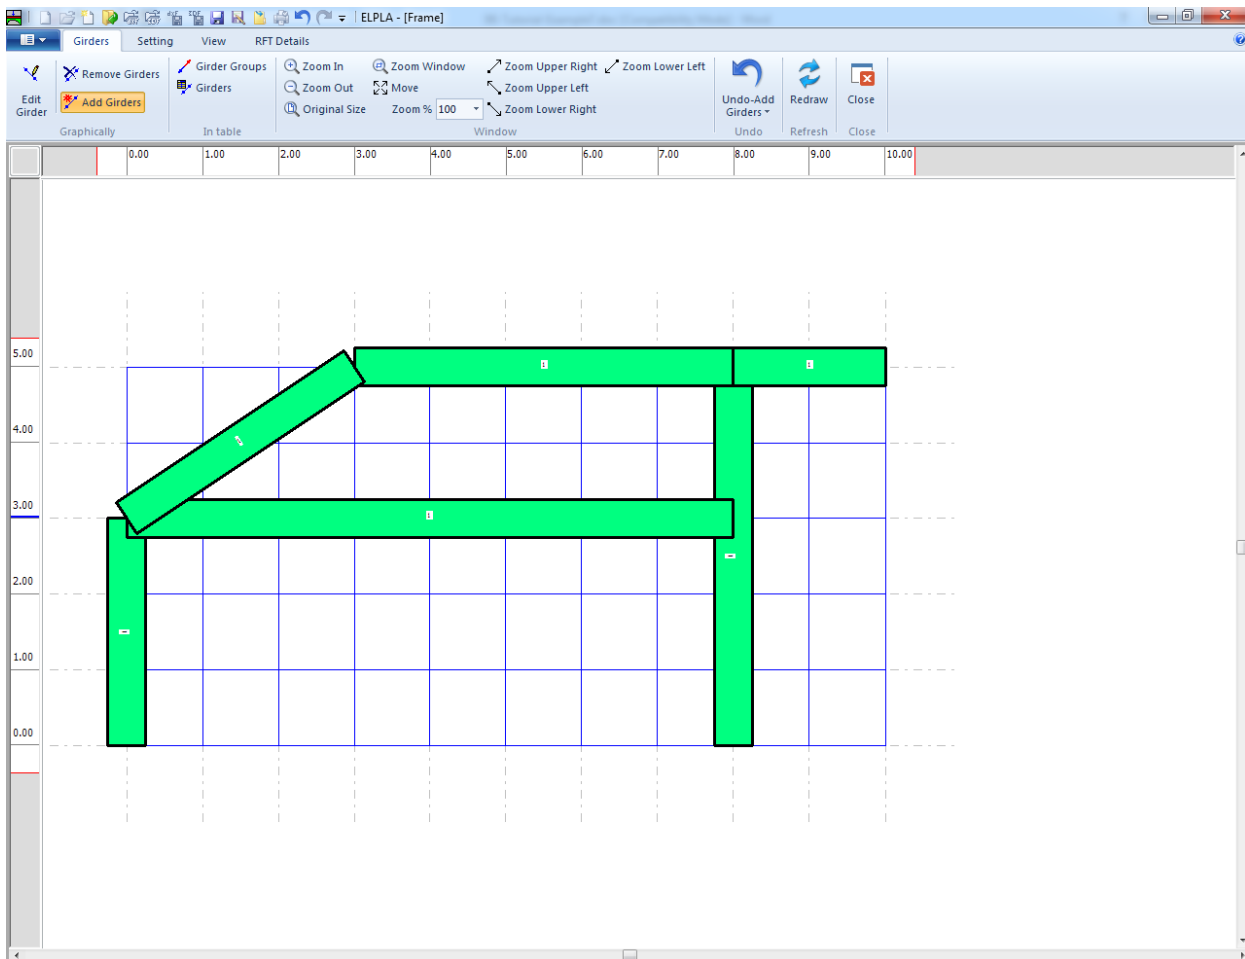

Figure 7.17 Girders
Repeat the previous steps to add the remaining girders on the net. After you have completed the definition of all girders, the screen should look like the following Figure 7.17.
- Choose "Save" command from "File" menu in Figure 7.17 to save the data of girders
- Choose "Close" command from "File" menu in Figure 7.17 to close the "Girders" Window and to return to *ELPLA* main window.